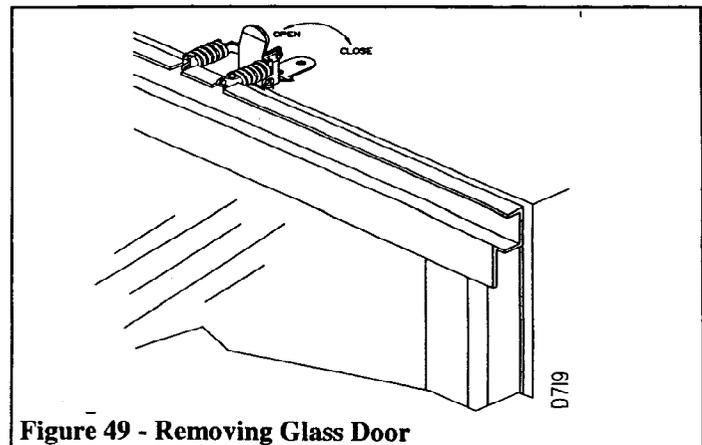

Figure 49 - Removing Glass Door
3. To open the glass door, undo the latches located on the top and bottom side of the firebox, (see Figure 49). Then carefully swing the door to the left. The glass door is securely mounted to the firebox by means of six screws.